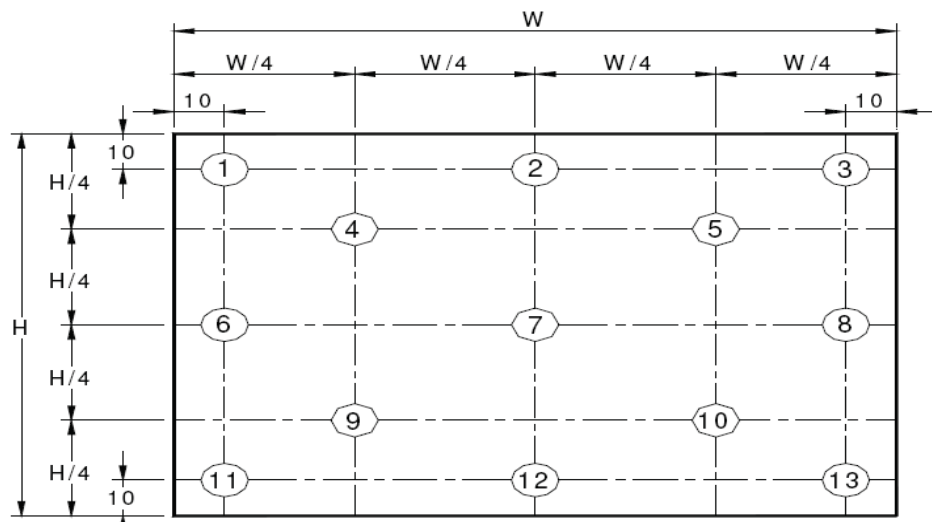
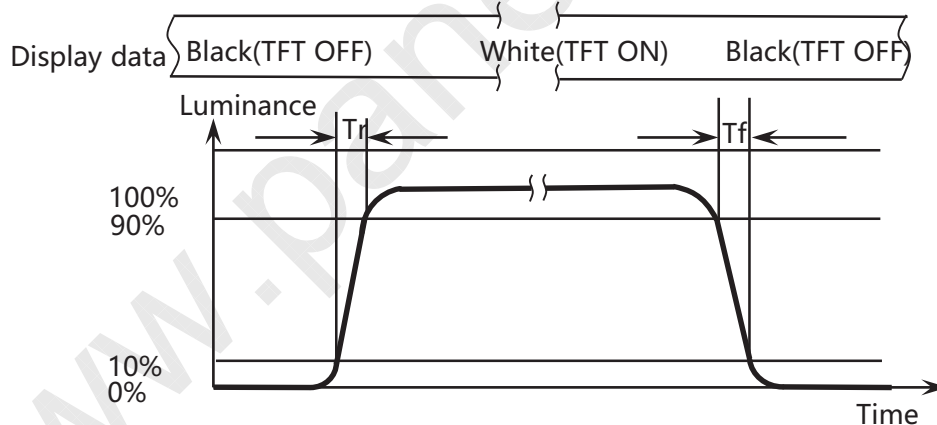

Figure 9. Uniformity Measurement Locations (13 points)
Figure 10. Response Time Testing
Notes : - Viewing angle is the angle at which the contrast ratio is greater than 10. The viewing angles are determined for the horizontal or 3, 9 o'clock direction and the vertical or 6, 12 o'clock direction with respect to the optical axis which is normal to the LCD surface (see Figure 7). - Contrast measurements shall be made at viewing angle of $\Theta = 0^\circ$ and at the center of the LCD surface. Luminance shall be measured with all pixels in the view field set first to white, then to the dark (black) state . (see Figure 7) Luminance Contrast Ratio (CR) is defined mathematically.$CR = \frac{\text{Luminance when displaying a white raster}}{\text{Luminance when displaying a black raster}}$ - Center Luminance of white is defined as luminance values of 5 point average across the LCD surface. Luminance shall be measured with all pixels in the view field set first to white. This measurement shall be taken at the locations shown in Figure 8 for a total of the measurements per display. - The White luminance uniformity on LCD surface is then expressed as : $\Delta Y = \text{Minimum Luminance of 5(or 9 or 13) points} / \text{Maximum Luminance of 5(or 9 or 13) points.}$(see Figure 8 and Figure 9). - The color chromaticity coordinates specified in Table 5 shall be calculated from the spectral data measured with all pixels first in red, green, blue and white. Measurements shall be made at the center of the panel. - The electro-optical response time measurements shall be made as Figure 10 by switching the “data” input signal ON and OFF. The times needed for the luminance to change from 10% to 90% is T_r, and 90% to 10% is T_r. - Cross-Talk of one area of the LCD surface by another shall be measured by comparing the luminance (YA) of a 25mm diameter area, with all display pixels set to a gray level, to the luminance (YB) of that same area when any adjacent area is driven dark. (See Figure 11).
The White luminance uniformity on LCD surface is then expressed as : $\Delta Y5$ = Minimum Luminance of five points / Maximum Luminance of five points (see Figure 8) , $\Delta Y13$ = Minimum Luminance of 13 points /Maximum Luminance of 13 points (see Figure 9).
The electro-optical response time measurements shall be made as shown in Figure 10 by switching the “data” input signal ON and OFF. T_r : The luminance to change from 10% to 90% , T_f : The luminance to change from 90% to 10% .